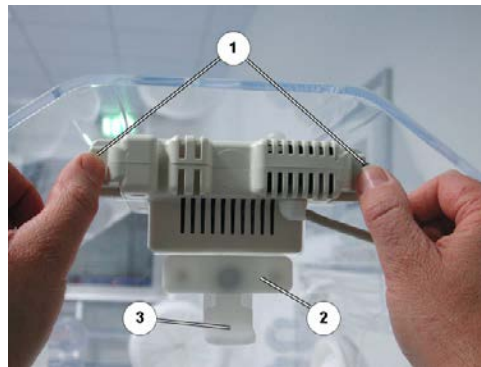
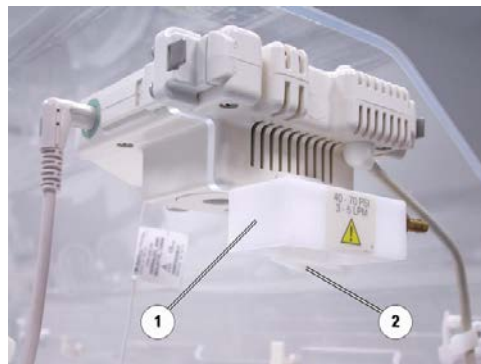
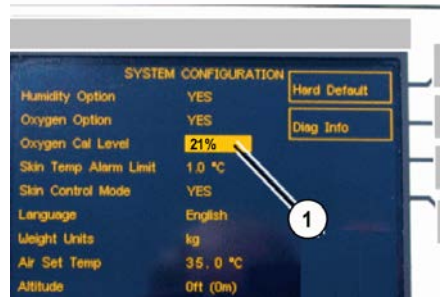

Fig. 15 Rear view of sensor module: locking tabs and sensor module lock plate
Fig. 28 Sensor module with 100% oxygen calibration fitting
Fig. 29 Close-up view of control panel: oxygen calibration point
- 9 Lower the Sensor Module Locking Tab (Fig. 15/3).
- 11 Hold the two locking tabs (Fig. 15/1) of the sensor module apart and at the same time withdraw the sensor module all the way out of the hood.
If the "100% oxygen calibration fixture" is installed (Fig. 28/1), the Isolette® controller must be configured for "100% oxygen calibration", and the "100% oxygen calibration fixture" must be connected to a minimum 3 L/min of 100% oxygen during calibration. If the "100% oxygen calibration fixture" is **not** installed (Fig. 15/2), the Isolette® controller must be configured for "21% oxygen calibration", and no oxygen source shall be used. The "21% calibration" is made in ambient air.
If the oxygen calibration setting is "21%", the 100% oxygen calibration fitting (Fig. 28/1) must not be attached to the sensor module! For calibration with 21% O2, see 3.2.3.4 21% O2 calibration.
If the oxygen calibration setting is "100%", the 100% oxygen calibration fitting (Fig. 28/1) must be attached to the sensor module! For calibration with 100% O2, see Fig. 28 "100% O2 calibration".
- 3 Check that the oxygen calibration point is "21%" (Fig. 29/1) and that the 100% oxygen calibration fitting (Fig. 28/1) is not attached to the sensor module.
- 3 Check that the oxygen calibration point is "100%" (Fig. 33/1) and that the 100% oxygen calibration fitting (Fig. 28/1) is attached to the sensor module.